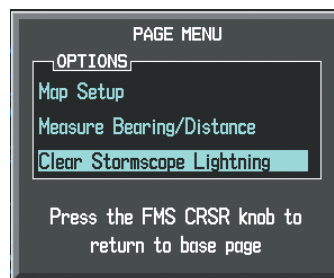

Figure 6-107 Navigation Map Page Options Menu
If heading input is lost, strikes and/or cells must be cleared manually after the execution of each turn (Figure 6-107). This is to ensure that the strike and/or cell positions are depicted accurately in relation to the nose of the aircraft.
- 3) Select 'Clear Stormscope Lightning' (Figure 6-107).